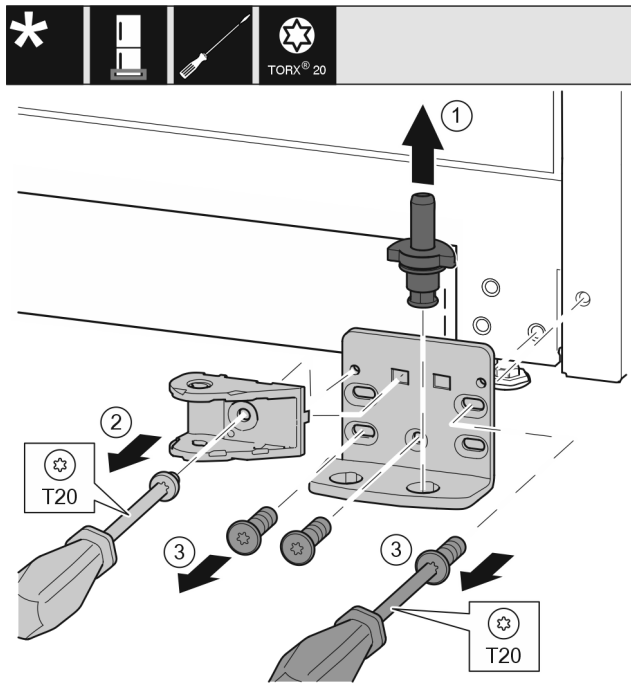

Fig. 34 *
- Completely pull out the bearing pin Fig. 34 (1) upward.*
- Use a screwdriver to unscrew the screw Fig. 34 (2) and remove the closing damper connection.
- Use a screwdriver to unscrew the screws Fig. 34 (3) and remove the swap bearing block.*